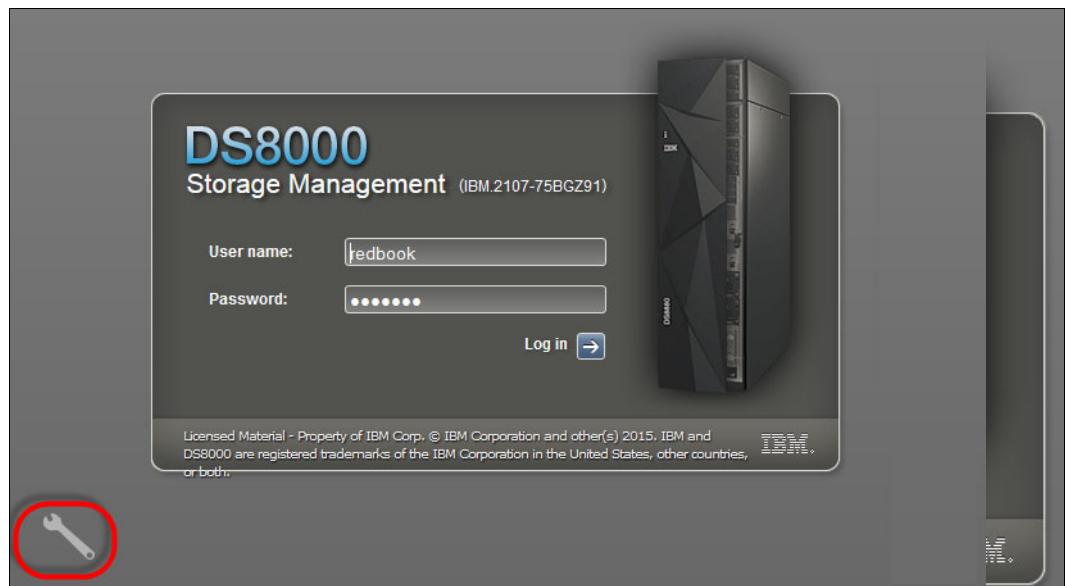

Figure 8-3 DS Management GUI logon panel
1. Start the MC Web GUI as shown in Figure 8-3. Click the **Service** icon to access the Service Management Console.